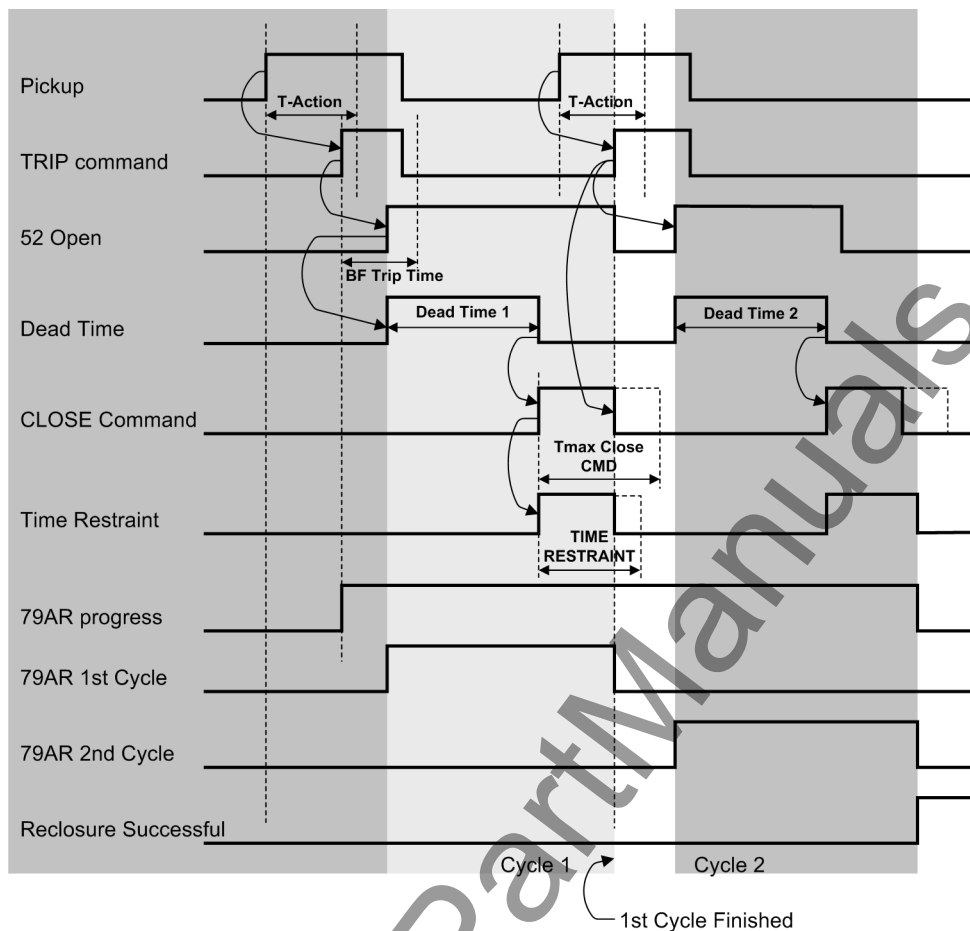

Figure 2-56 Timing diagram showing two reclosing shots, first cycle unsuccessful, second cycle successful
The 7SJ61 is equipped with an integrated three-pole, single-shot and multi-shot automatic reclosure (AR). Figure 2-56 shows an example of a timing diagram for a successful second reclosure.